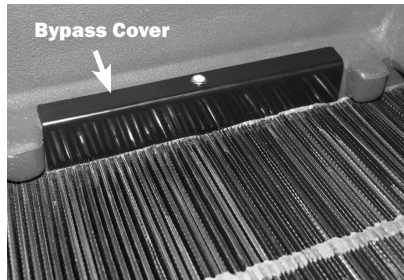

Figure 3
**Below 32°C** - When the Phoenix R200 50Hz is used in normal dehumidifier operating temperatures (below 32°C), the bypass cover must close the bypass openings, figure 3. This maximizes performance by increasing the amount of air that is dehumidified across the evaporator. This temperature range is often found during the first 24 hours of a drying job.